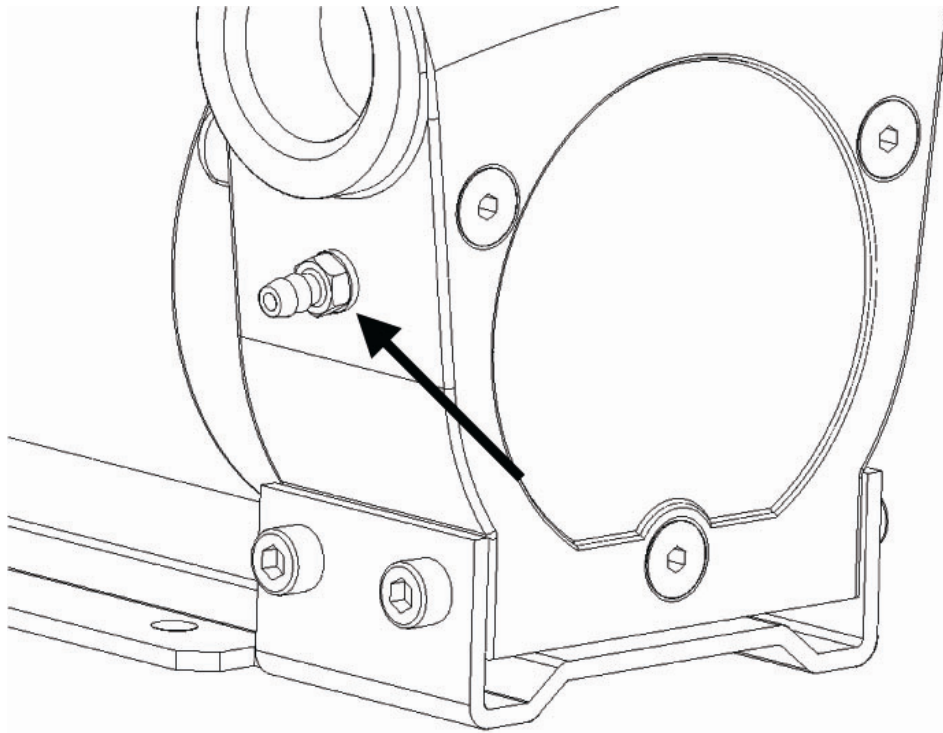

Figure 3-2: Threaded nozzle for Siphon Protection screwed in place
- Screw into the same thread the supplied threaded nozzle with the new seal (see Fig. 3-2).